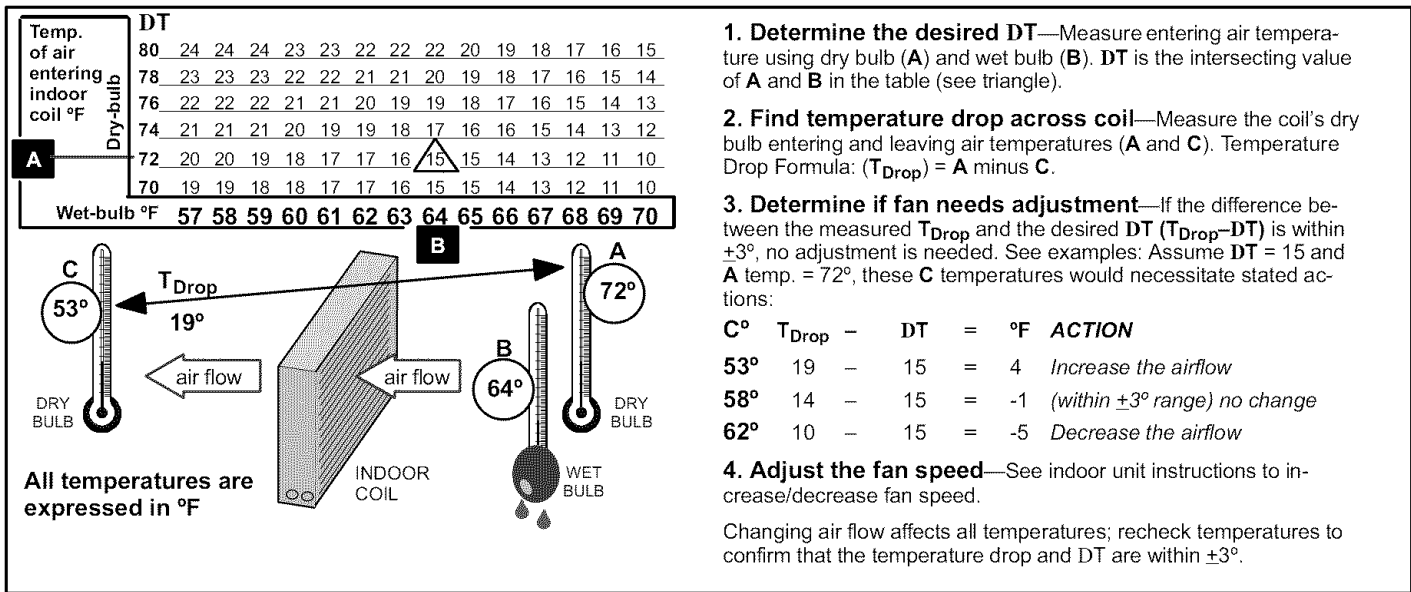

Figure 29. Checking Indoor Coil Airflow Guide
Check airflow using the Delta-T (DT) process using the illustration in figure 29.
1. Check the airflow as illustrated in figure 29 to be sure the indoor airflow is as required. (Make any air flow adjustments before continuing with the following procedure.)